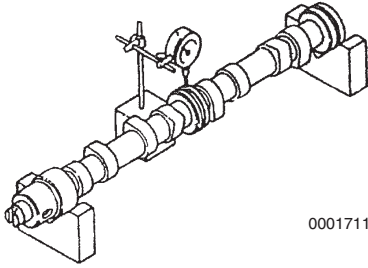

Figure 6-121
1. Use V-blocks and a dial indicator to check camshaft bend (**Figure 6-121**). Place the indicator on the center bearing journal.